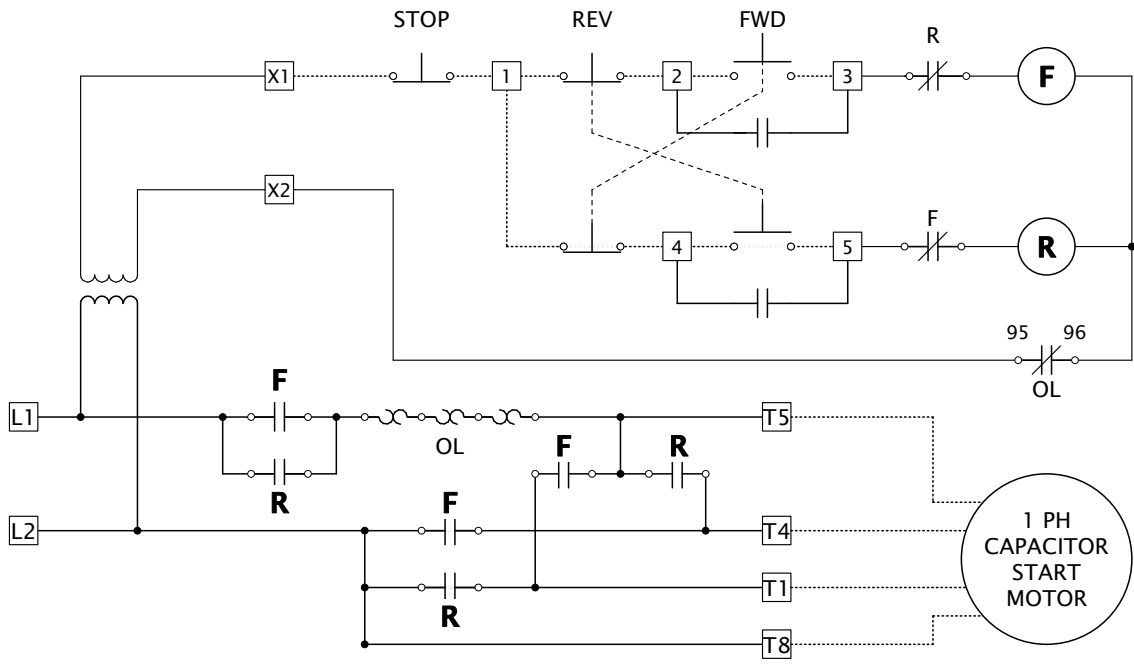

Figure 5.2: 120 Volt Single Phase Reversing Starter with 24 Volt Coil
The Wiring Diagram shown in Figure 5.2 illustrates the standard operating methodology for the single phase reversing controller. The student is expected to adapt this schematic to the equipment and operating parameters of this exercise. The diagram shows the portions of the circuit which are typically prewired with solid lines, and the portions that are wired in the field with dotted lines. Also note that the forward and reverse push buttons are mechanically interlocked, as indicated by the dashed lines.
- 5. Select the NC Stop leads, the NO and NC FWD leads, and the NO and NC REV leads. Wire these into the motor controller according to the wiring diagram in Figure 5.2. Make all connections at the terminal strip, and do not disturb the factory wiring.
2. Redraw the circuit shown in Figure 5.2 to include pilot lights to indicate when the motor is operating in the Forward and Reverse Directions. We do not have the necessary items to make the stop light work correctly, so just wire it up to be on all the time.